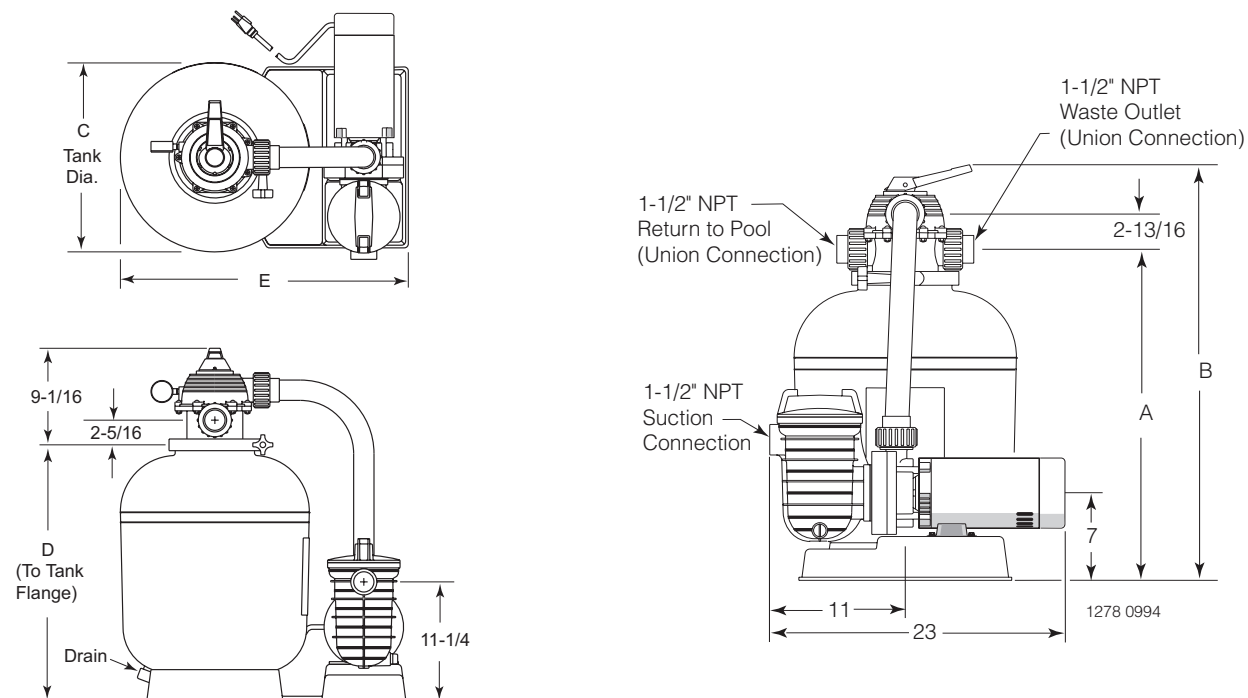

Figure 1: Dimensions
- Provide space and lighting for easy access for routine maintenance. (See Table I and Figure 1, Page 4, for space requirements.)